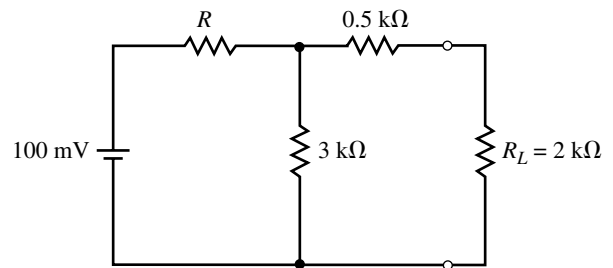

FIGURE 9–100
- 40. Repeat Problem 39 for the circuit of Figure 9–100.